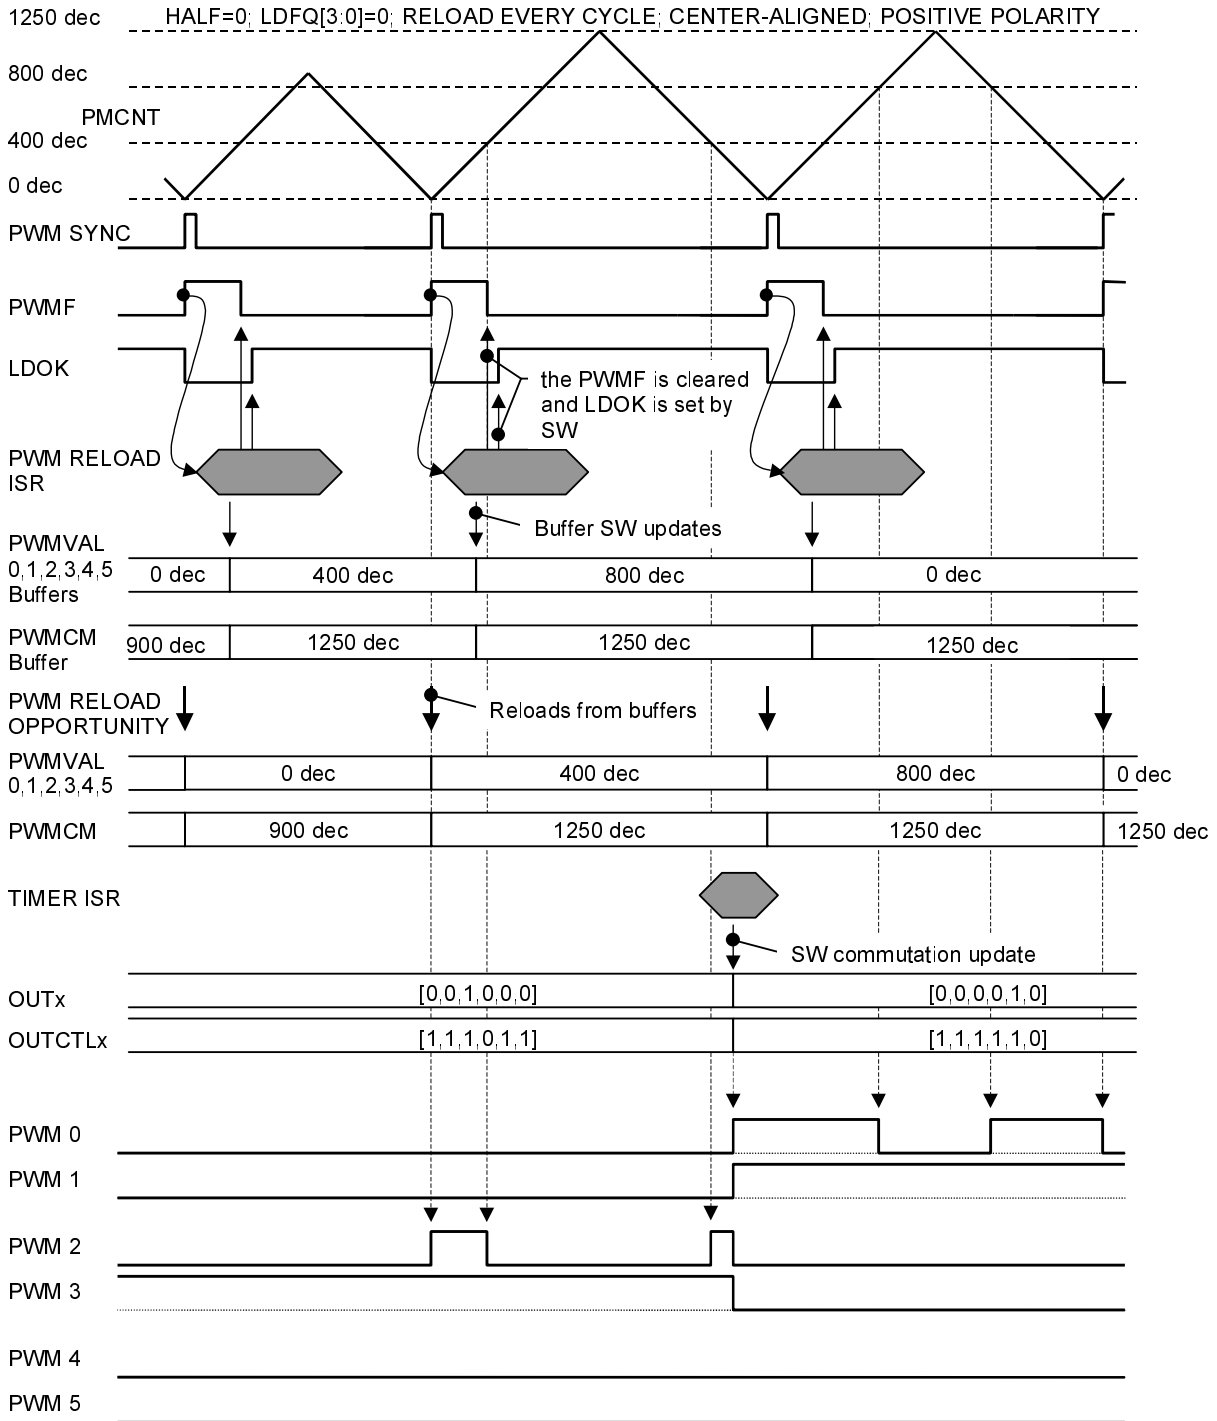
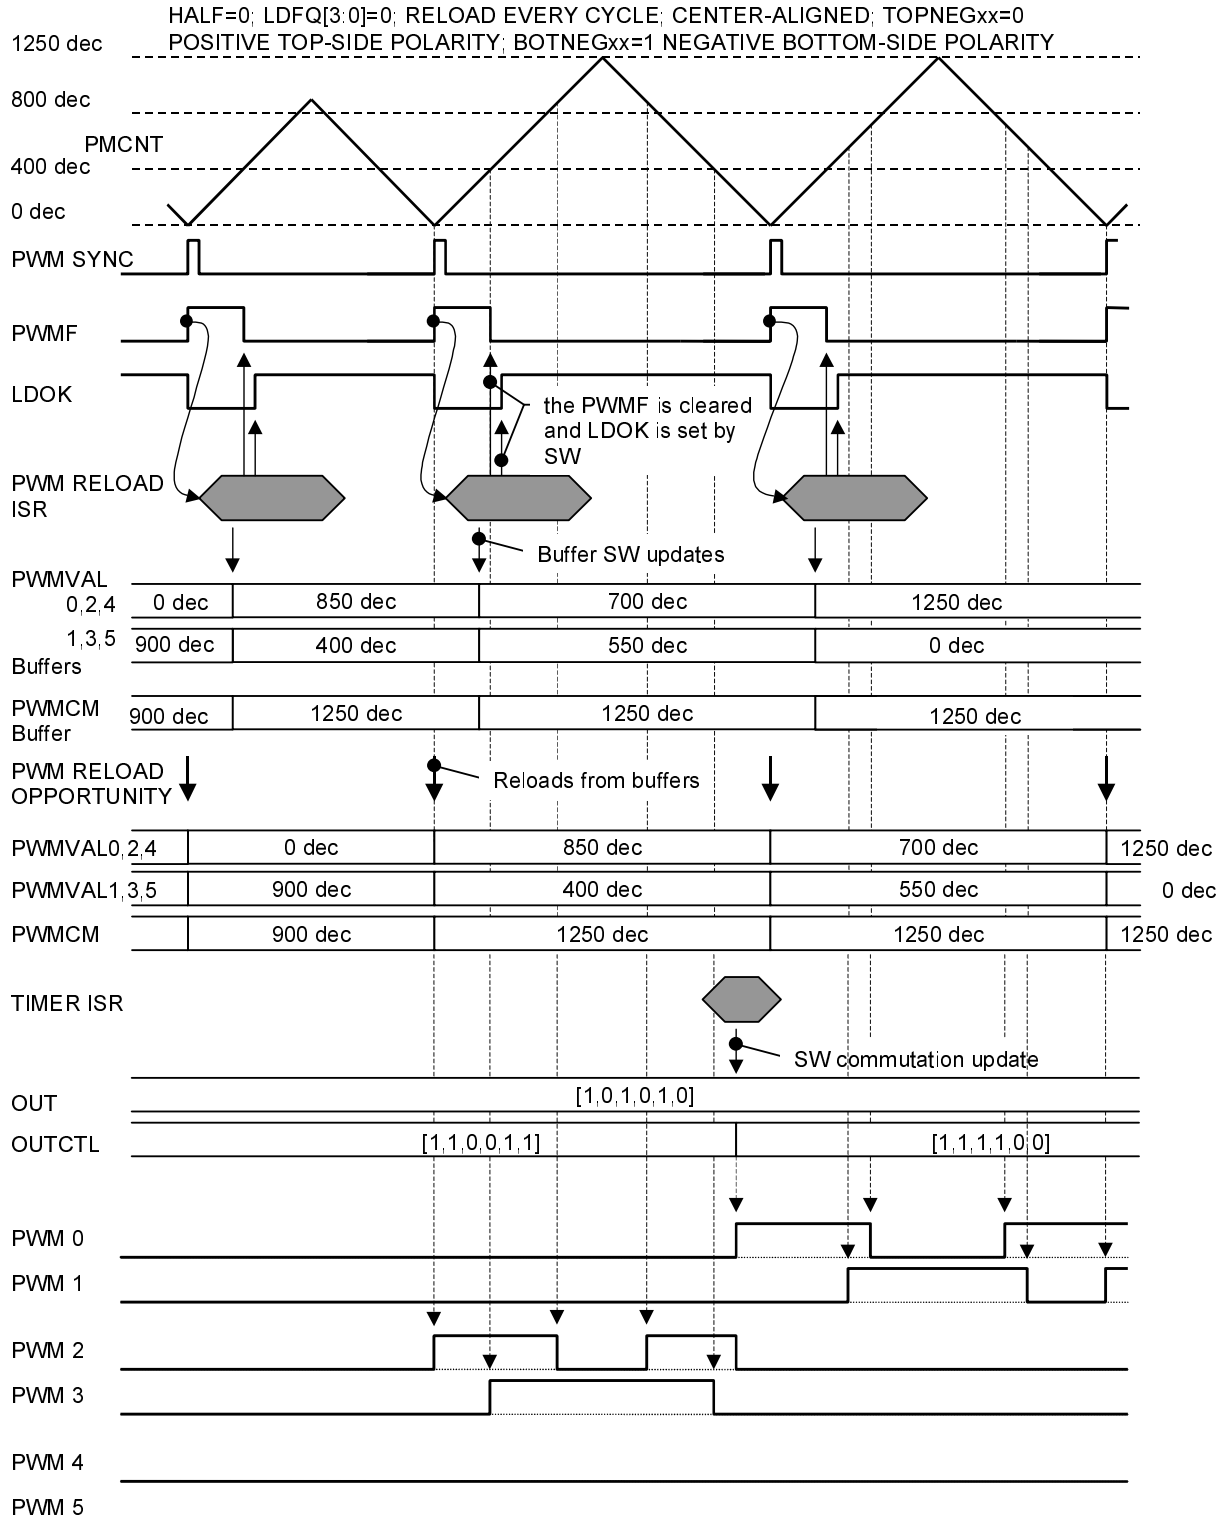

Figure 5-13. SRM - Case A - PWM Waveforms
Figure 5-14. SRM - Case B - PWM Waveforms
Figure 5-13 and **Figure 5-14** show the control of the PWM signal waveforms for the case A - combined phase PWM operation and for the case B - combined phase PWM, respectively.
4. **Performing the commutation.** New values of the SW output control bits OUTCTLx are loaded to corresponding PWM module registers (see Figure 5-13 and Figure 5-14).